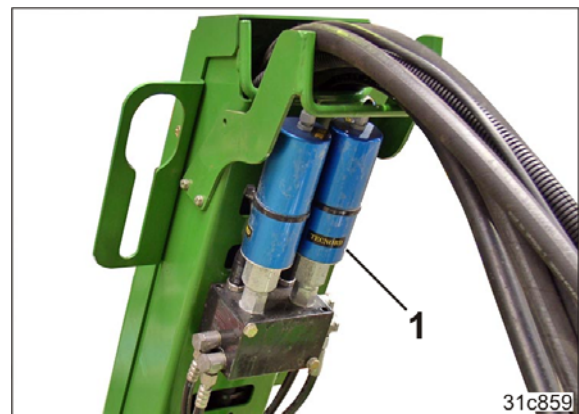

Fig. 111
- a setting motor (Fig. 111/1, optional), which is operated using the AMATRON 3 in the tractor cab.